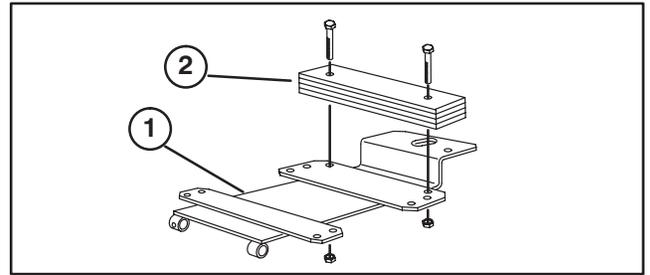

Figure 12
1. Mount weight assembly to rear holes in seat support with (2) 5/16-18 x 2-1/4" lg capscrews and locknuts (Fig. 12).